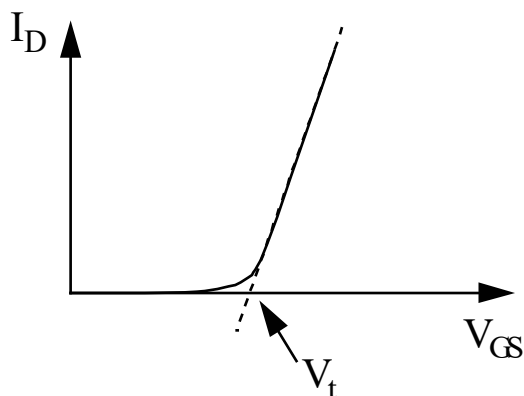

Figure L3.1 Determination of V_{T0} from the I_D vs. V_{GS} curve for a linear MOSFET.
- (i) Since you cannot create cursors in the XY plot, you can instead use cursors in the main oscilloscope window to determine the approximate threshold voltage for the case where $V_B = 0$ V, which we call V_{T0} . If you extend a line downwards from the region where the transistor is turned on (i.e., not in cutoff, the steep part of the curve), the point where this line crosses the x-axis is defined as the threshold voltage. This is shown in Fig. L3.1. Unless you are analyzing your data in a separate program, you may approximate the threshold voltage by using cursors to find the voltage V_{GS} where the drain current I_D drops to zero. Note that this requires you to understand which curve corresponds to which body-bias value. Save an annotated version of the plot and cursors you use to take your measurement.